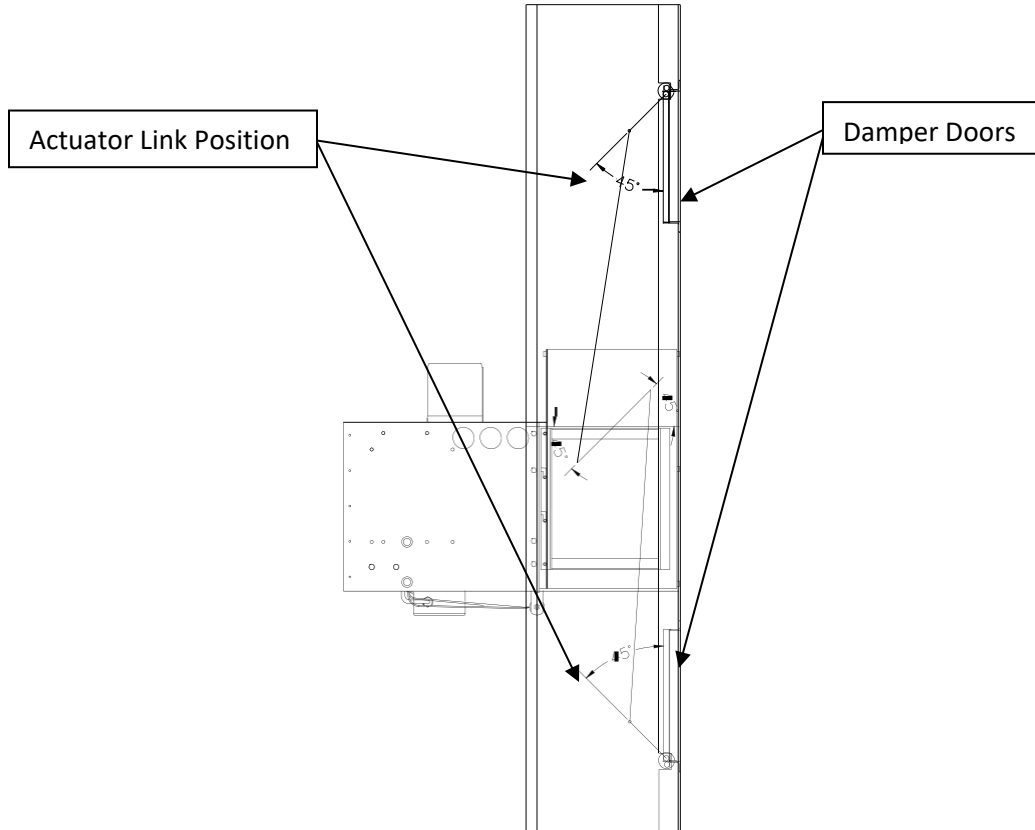

Figure 1
- With both damper doors closed, adjust the control arms on the damper and actuator shaft to 45 degrees. Figure 1